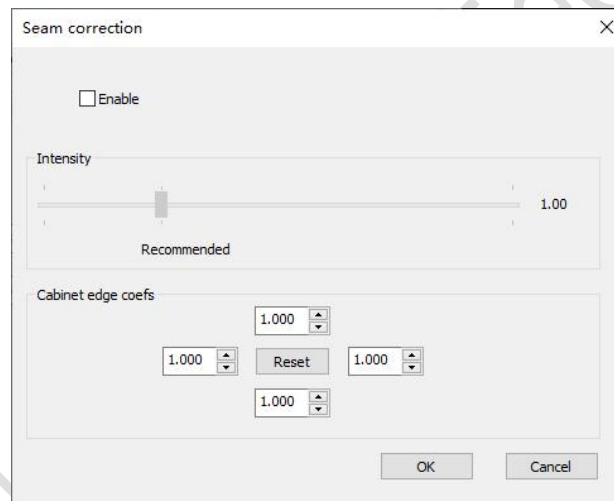

Fig.3-86 Seam Correction
- **Seam correction:** This function is enabled by default. You can disable it according to your need. See Figure 3-86.